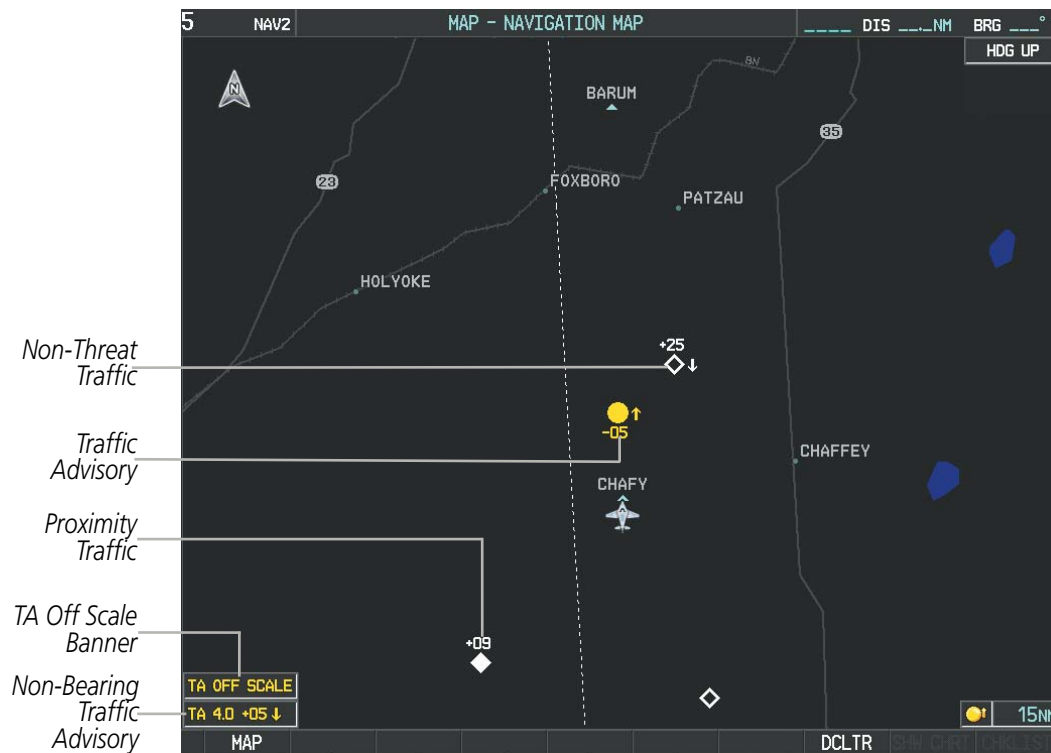

Figure 6-133 TAS Traffic on Navigation Map
- 2) Select the **TRAFFIC** Softkey. Traffic is now displayed on the map as shown in Figure 6-133.